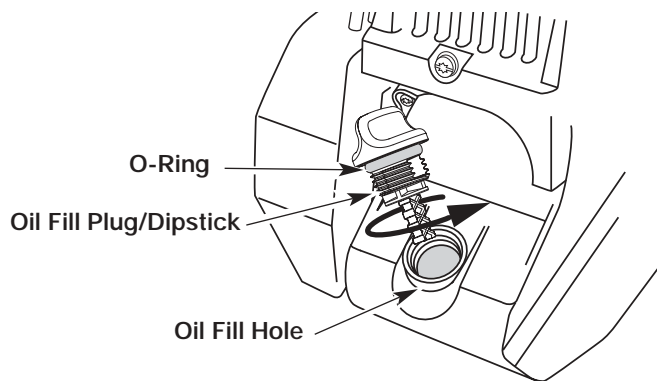

Fig. 53
6. If the level is low, add a small amount of oil to the oil fill hole and recheck (Fig. 53). Repeat this procedure until the oil level reaches the top of the dipstick.
NOTE: Make sure the O-ring is in place on the oil fill plug/dipstick when checking and changing the oil (Fig. 53).